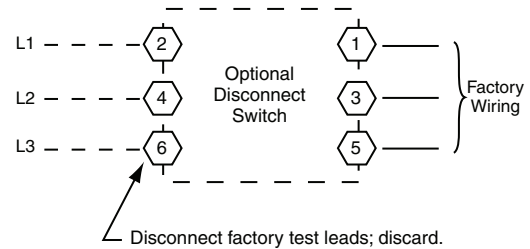

Fig. 23 — Power Wiring Connections
Field power wires are connected to the unit at line-side pressure lugs on compressor contactor C and indoor fan contactor IFC (see wiring diagram label for control box component arrangement) or at factory-installed option non-fused disconnect switch. Maximum wire size is #2 AWG (copper only). See Fig. 23 and unit label diagram for field power wiring connections.
The factory-installed option non-fused disconnect (NFD) switch is located in a weatherproof enclosure located under the main control box. The manual switch handle and shaft are shipped in the disconnect enclosure. Assemble the shaft and handle to the switch at this point. Discard the factory test leads (see Fig. 23).
2. Install power lines to terminal connections as shown in Fig. 23.